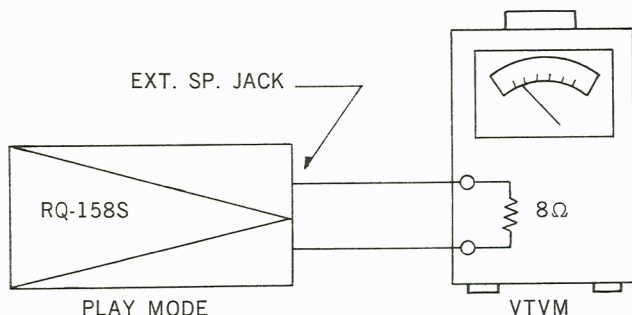

Fig. 1
Measuring Circuit: Refer to Fig. 1.
1. As shown in Fig. 1, connect V.T.V.M. to Extension Speaker Jack of model RQ-158S and terminate with $8\ \Omega$ resistor.